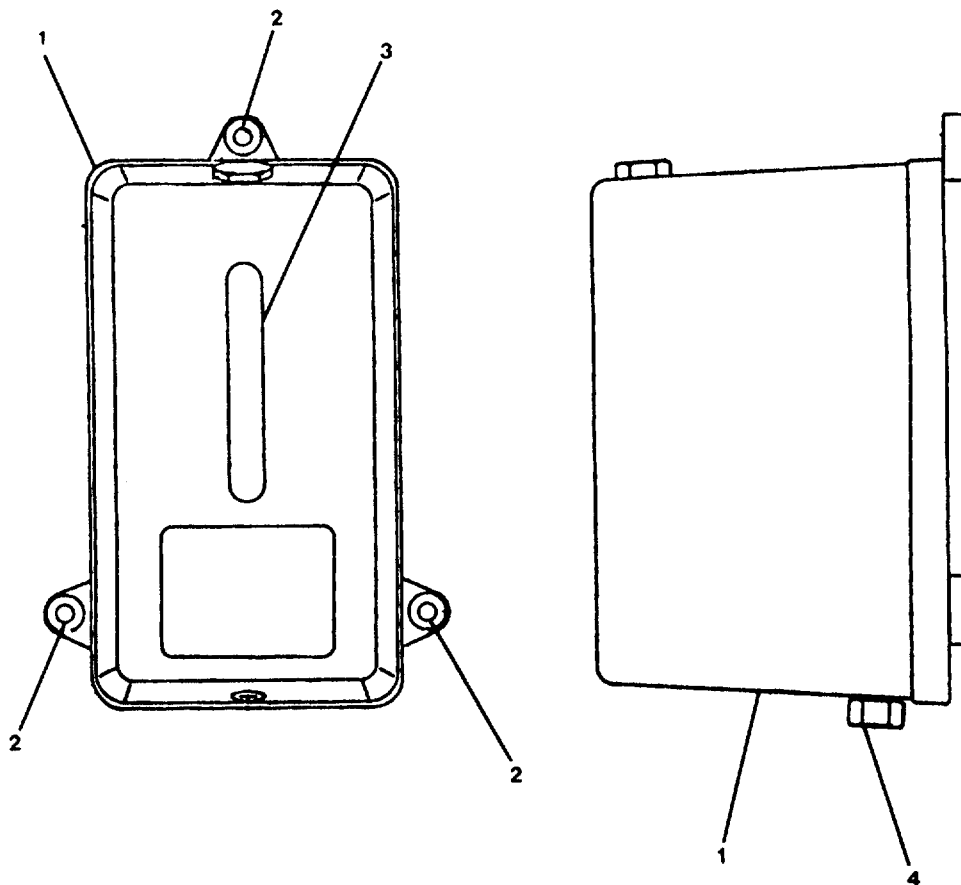

FIGURE 2-6. Header Tank.
**2-15. Replace/Repair Header Tank. (FIGURE 2-6)**